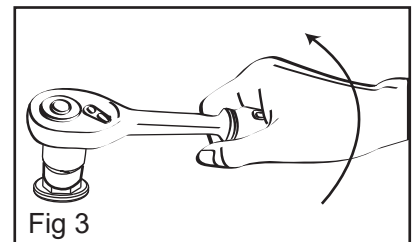

Fig 3
- 2 Connect a ratchet wrench or spanner to the socket and turn counter-clockwise (Fig. 3).